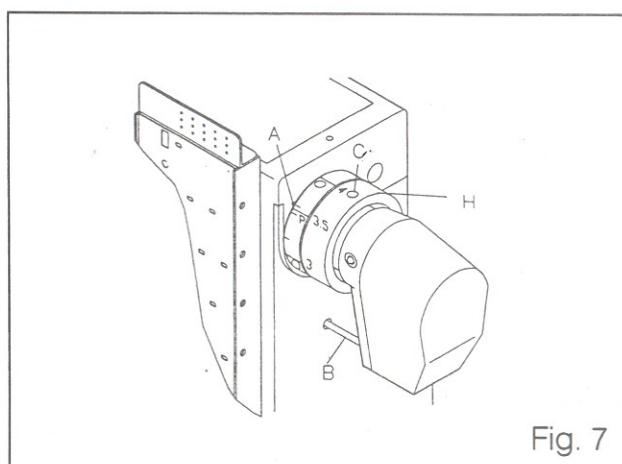

Fig. 7
1. Put the synchronizer on to the hand wheel (H), and at the same time to allow retaining bolt (B) to get into the long groove of the synchronizer. Turn the hole (C) above the 2 screw heads of the synchronizer, and fasten these 2 screws one by one. (Shown as Fig. 7)
3. Be sure the marking (A) is in line with the shorter marking line, which is higher than the 3.5 marking on hand wheel (H), when the needle bar is at its top dead point. (Fig. 7)